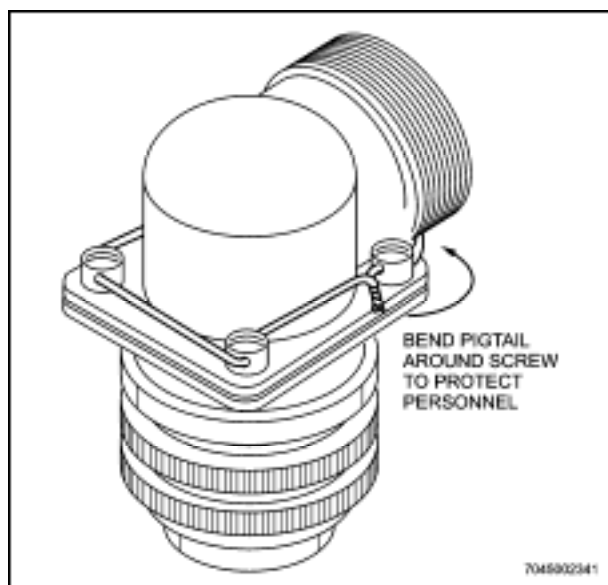
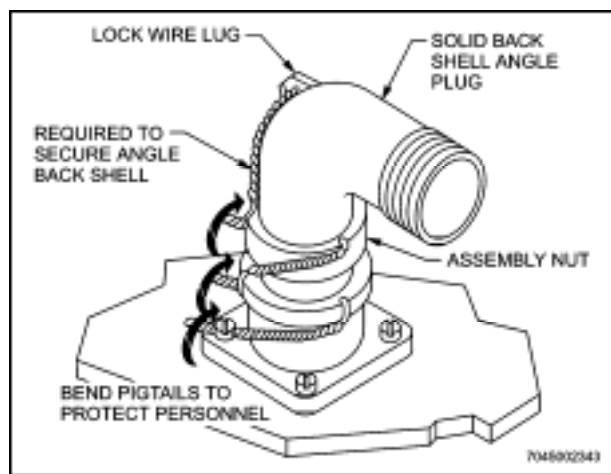
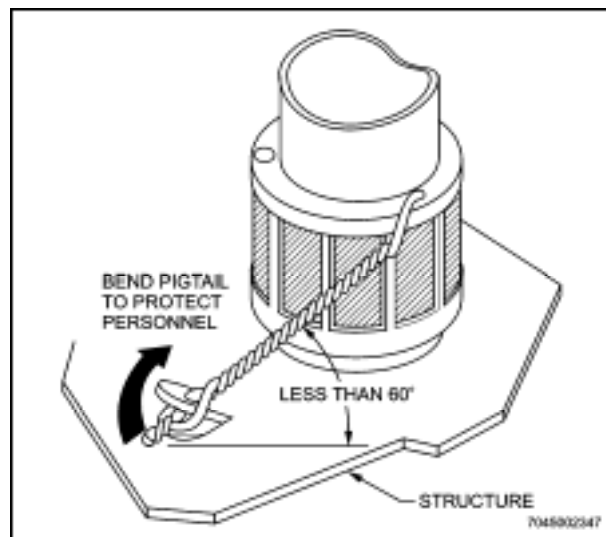
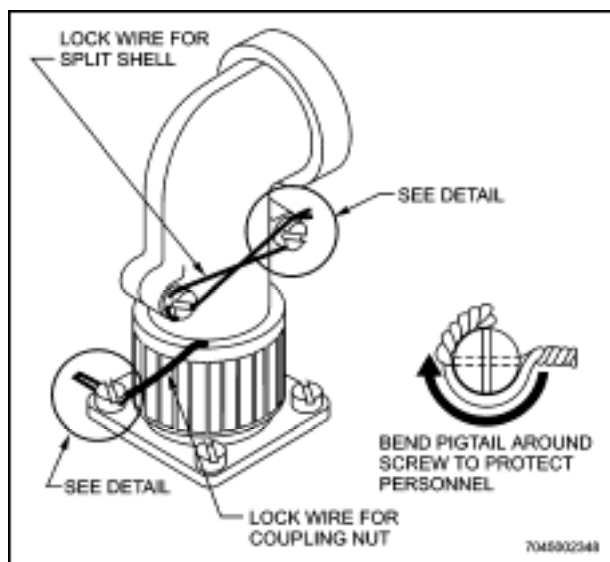

Figure 9-2 Single Wire Method
Figure 9-4 Lock Wiring Thread Coupled Connector
Figure 9-8 Lock Wiring Connector to Structure
Figure 9-9 Wiring Split Shell Assembly Screws
10. Use the single wire method shown in Figure 9-2 in all conditions specified for shear and seal wire as described in Paragraphs 5 and 6. In addition, the single wire method may be used with locking wire in areas hard to reach and small screws in a closely spaced or closed geometrical pattern such as triangles, squares, rectangles, circles, etc.
15. Do not lock wire electric or RF connectors and backshells which have a mechanical lock, as lock wiring will act against the locking feature. Backshells on bayonet coupled connectors shall not be safety wired to connector coupling ring. Backshells with safety wire holes shall be safety wired to aircraft structure or to connector mounting flange when required (see Figure 9-9).
16. When specified on engineering drawings or specified in the applicable aircraft maintenance handbook, lock wire connectors as follows (see Figure 9-4):
- f. Safety wire attached cable clamps/coupling ring to connector coupling ring if provisions exist. (See Figure 9-4.) If necessary, safety wire these parts to structure (see Figure 9-8) or to mounting flange (see Figure 9-9). Use same procedure as described in steps a through e.
17. If no fillister head screw or safety wire tab is available for attaching lock wire, secure wire to drilled hole in structure not more than 6 inches (15cm) from connector, as shown in Figure 9-8. Use same procedure as described in Para 14.
18. Split shell connectors are held together by two fillister head screws. Secure these screws as follows (see Figure 9-9):
19. Angle plugs with solid black shells are in two parts, held together by four screws through mating flanges. Wire these screws with a single lock wire as shown in Figure 9-2. Solid shell angle plugs made by Bendix and Cannon have back shells held in place by assembly nuts. Install a double twisted lock wire between hole in assembly nut and lug on backshell as shown in Figure 9-4. If necessary to lock wire the plug itself install a second double twisted wire between the assembly nut and the coupling nut or between the coupling nut and one of the receptacle mounting screws, as shown in Figure 9-4.